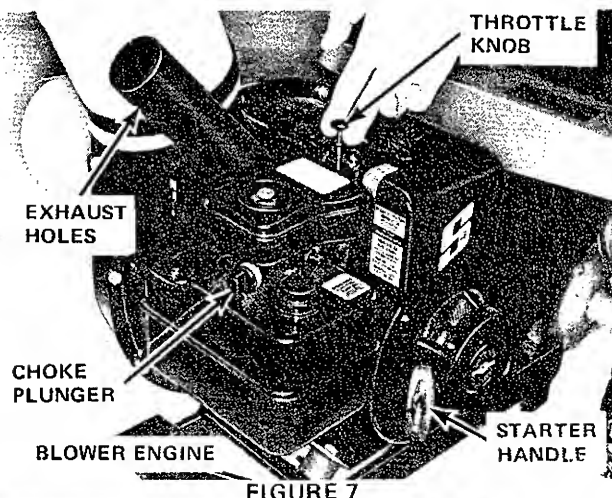

FIGURE 7
1. Position blower engine muffler so exhaust holes are directed away from engine (Figure 7).